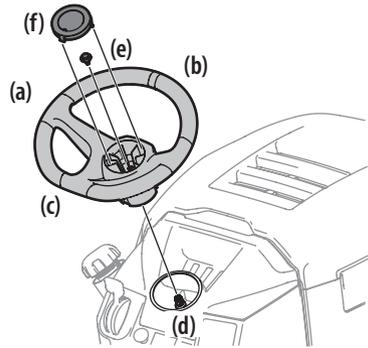

Figure 14
1. With the wheels of the tractor pointing straight forward, align the steering wheel (a) by using the center-line (b) on the front of the steering wheel (a) pointing straight ahead and the flat section (c) of the steering wheel (a) facing toward the seat, place the steering wheel (a) over the steering shaft (d). See Figure 14.
2. Secure the steering wheel (a) with the hex bolt (e) from under the steering wheel cap (f) and torque to 18-22 ft-lbs (24.4-29.8 N-m). See Figure 14.
**NOTE:** The hex bolt (e) securing the steering wheel (a) has thread locker applied to it, so if it is removed, it is recommended that the hex bolt (e) be replaced or thread lock re-applied. See Figure 14.